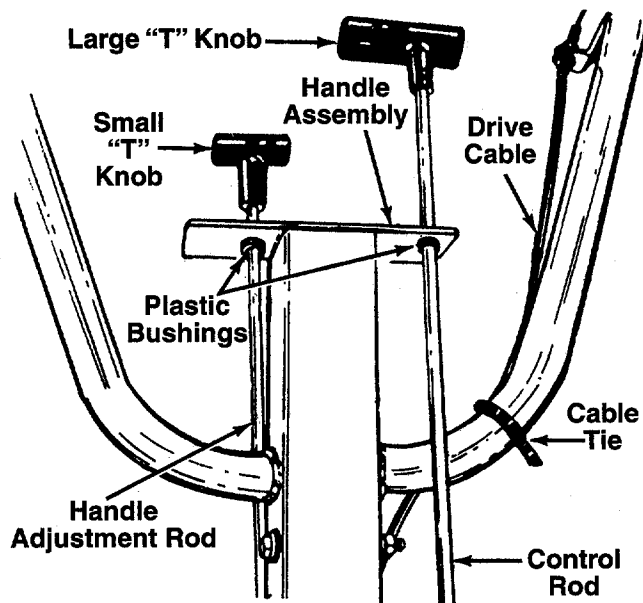

FIGURE 8.
6. Secure drive cable to left handle using cable tie. Refer to figure 8. Cut off excess end of cable tie.
1. Insert the threaded end of control rod **up** through the plastic bushing on the left side of handle assembly. See figure 8. Thread the large "T" knob on the end of control rod.